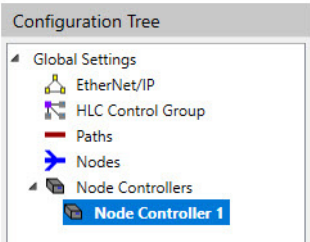

Figure 4-115: Configuration Tree Showing Node Controller Added
*The list of node controllers is expanded and displayed below **Node Controllers** in the Configuration Tree, see Figure 4-115 with the new node controller added to the list.*